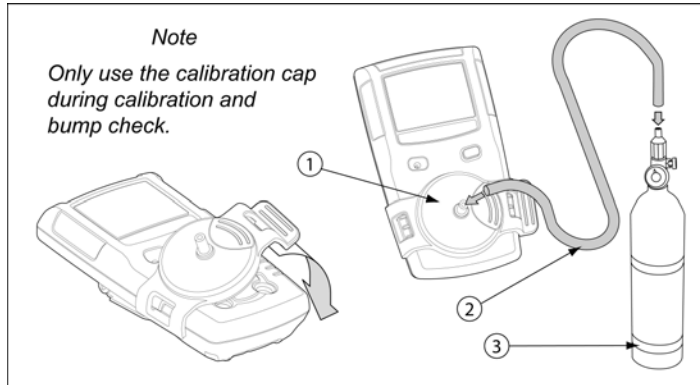

Figure 7. Connecting the Gas Cylinder to the Detector
Refer to the following Figure 7, Table 11, and procedures to connect the gas cylinder to the detector for calibration.
- Attach the calibration cap to the detector. Refer to Figure 7. Open the valve on the regulator and apply gas at a flow rate of 250-500 ml/min.